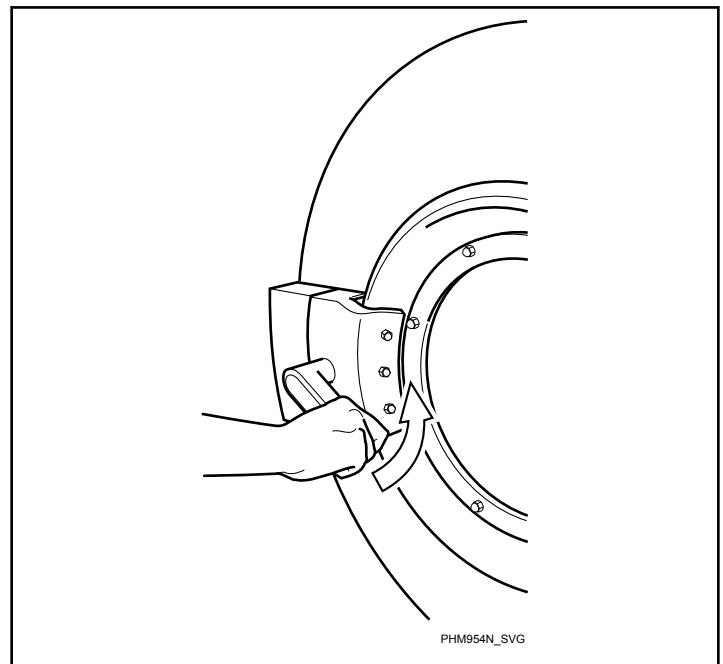

Figure 47
4. Close the door and turn handle counter clockwise. Refer to *Figure 47*.